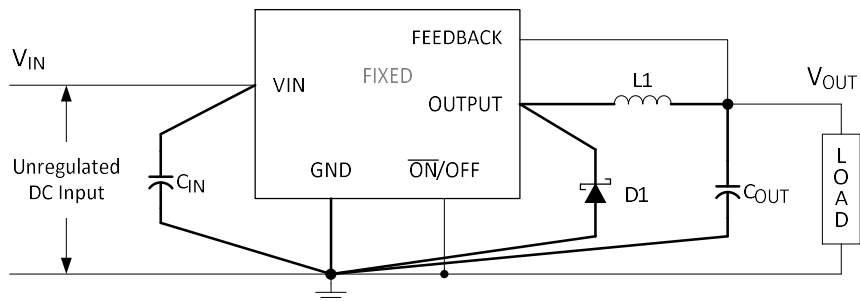
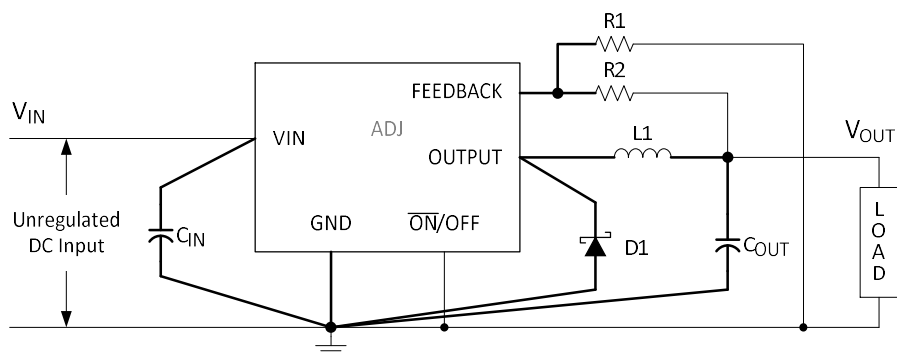

Figure 19. Fixed Output Voltage Version
Figure 20. Adjustable Output Voltage Version
To maintain output voltage stability, the power ground connections must be low-impedance (see Figure 19 and Figure 20). For the 5 lead TO-263 and TO-220 style package, both the tab and pin 3 are ground and either connection may be used, as they are both part of the same copper lead frame.
As indicated in the Figure 19 and Figure 20, to minimize inductance and ground loops, the length of the leads indicated by heavy lines should be kept as short as possible. For best results, single-point grounding (as indicated) or ground plane construction should be used. For the details, refer to the *PCB Layout Guidelines*.
1. Programming Output Voltage (Selecting R1 and R2, as shown in Figure 20)